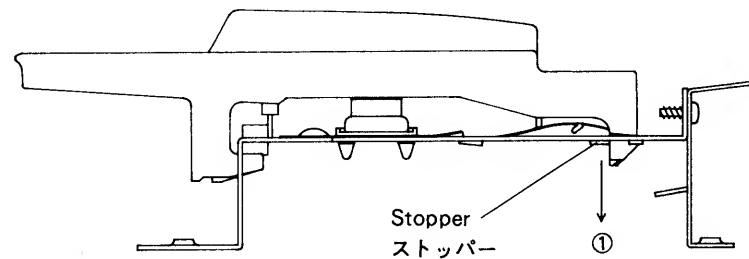

Fig.1
1. Remove the stopper in the direction of arrow ① as shown in Fig.1.